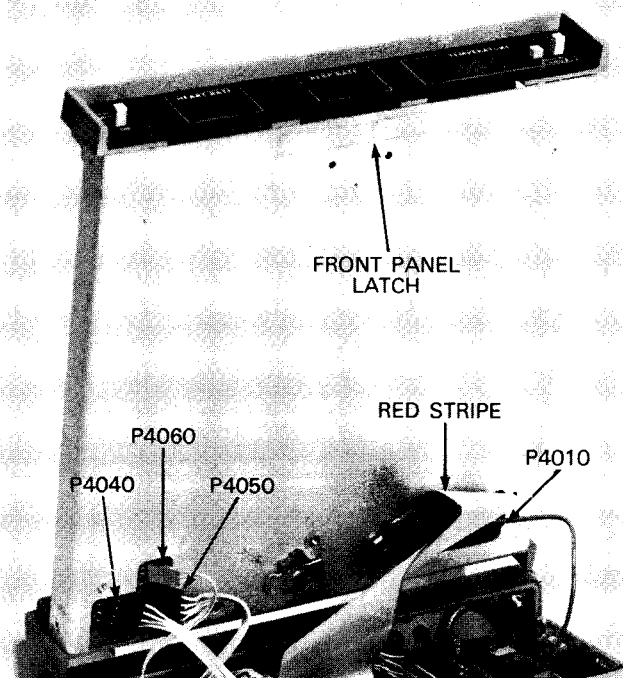

Figure 1-5. Attaching 401 to monitor.
b. With interconnecting cable folded as shown in Figure 1-5, connect to P4010 on 401 Main board. Note correct location of red stripe.
c. Connect 3-wire cable (with brown connector) to P4060. See Figure 1-5. Be sure to match triangle on connector with one on board.
d. Connect 4-wire cable (with black connector, from P1982 on monitor) to P4050. See Figure 1-5. Be sure pin 1 on the connector (white-brown wire) mates with pin 1 of P4050 (indicated by triangle).
e. Connect 4-wire cable (with black connector from monitor battery pack) to P4040. See Figure 1-5. Be sure pin 1 on the connector (white-brown wire) mates with pin 1 of P4040 (indicated by triangle).
- b. With interconnecting cable folded as shown in Figure 1-5, connect to P4010 on 401 Main board. Note correct location of red stripe.
- c. Connect 3-wire cable (with brown connector) to P4060. See Figure 1-5. Be sure to match triangle on the connector with one on the board.
- d. Connect 4-wire cable (with black connector) from P1982 on monitor to P4050. See Figure 1-5. Be sure pin 1 on the connector (white-brown wire) mates with pin 1 of P4050 (indicated by triangle).
- e. Connect 4-wire cable (with black connector) from monitor battery pack to P4040. See Figure 1-5. Be sure pin 1 on the connector (white-brown wire) mates with pin 1 of P4040 (indicated by triangle).